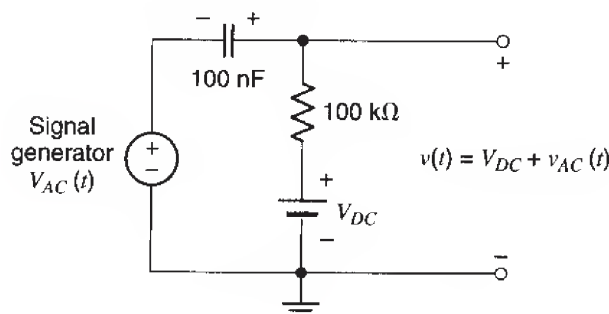

Fig. 3
1. Hook up the circuit of Fig. 1, using connections as short as possible, and with the voltage of PS1 set to zero for now. The chip that will be used in this experiment is the CD4007, the same chip used in the first half of Experiment 11. Fig. 3 of that experiment shows the pin assignment for the transistor we will be using. The circuit of Fig. 1 will be used in the following steps to investigate the use of a MOSFET as an amplifier.
12. Consider the circuit of Fig. 3. It contains a DC source  $V_{DC}$  and an AC source  $v_{AC}(t)$ . The output voltage of the circuit is affected by both of these voltages. If the frequency of the signal is much higher than  $1/(2\pi RC)$ , the output of the circuit will almost be  $v(t) = V_{DC} + v_{AC}(t)$ , as indicated in the figure. To see this, consider the effect of each voltage source in the circuit by itself, as explained below.
Assume now that the DC voltage in Fig. 3 is zero instead; this is equivalent to assuming that the DC source is replaced by a short, as shown in Fig. 4(b). The capacitor and resistor now form a high-pass filter with cutoff frequency  $1/(2\pi RC)$  (see Experiment 7). If the frequency of the signal is much higher than this, the signal will pass to the output; in other words,  $v(t) = v_{AC}(t)$ , as indicated in the figure.
Since the circuit is *linear*, superposition will apply: When *both* voltage sources in Fig. 3 are active, the output voltage will be the sum of the individual results in Figs. 4(a) and (b), that is,  $v(t) = V_{DC} + v_{AC}(t)$ , as indicated in Fig. 3. Thus, we have a circuit in which the AC voltage is coupled to the output through the capacitor (which is, for this reason, called a *coupling capacitor*) and is added to the DC voltage. At the same time, the capacitor blocks the DC voltage from reaching the AC source.
Hook up the circuit of Fig. 3. (CAUTION: It is unlikely that the 100 nF capacitor will have polarity indicated on it, but if it does, make sure to observe it, as shown in Fig. 3.) Use a DC voltage of 2 or 3 volts and a signal voltage with an amplitude of about 0.25 V and a frequency of 1 kHz. [Is this frequency much higher than
- Remove PS1 from the circuit of Fig. 1, and instead use the circuit of Fig. 3 to produce the voltage  $v_{GS}$ , as shown in Fig. 5 (for now, set the signal amplitude to 0). The resistor shown connected across the output is meant to indicate any load the amplifier is supposed to drive; for our purposes, this load will be just a scope probe. The probe has a large input resistance (typically  $1\text{ M}\Omega$ ) and can be connected there without disturbing the operation of the amplifier. Capacitor  $C_2$  is a coupling capacitor, which allows the AC variation of  $v_{DS}$  to appear across the load but blocks the DC value of that voltage. Essentially,  $C_2$  forms a high-pass filter together with the load resistance. This filter passes the (high-frequency) AC variation of  $v_{DS}$  to the load but rejects the DC (i.e., zero-frequency) part of  $v_{DS}$ . (In the unlikely event that the capacitors indicate polarity on them, make sure to observe it, as shown in Fig. 5.)